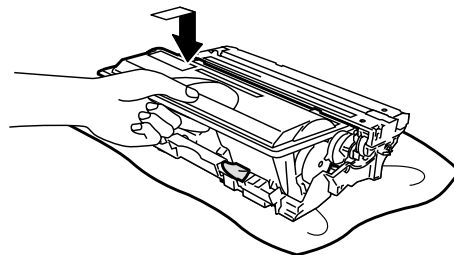

Fig. 5-3
- (4) Unpack the new drum unit, and remove the protective materials.
- (5) Install the toner cartridge into the new drum unit until you hear it lock into place with a click. When the toner cartridge is installed correctly, the Blue lock lever is lifted automatically. (Fig.5-3)